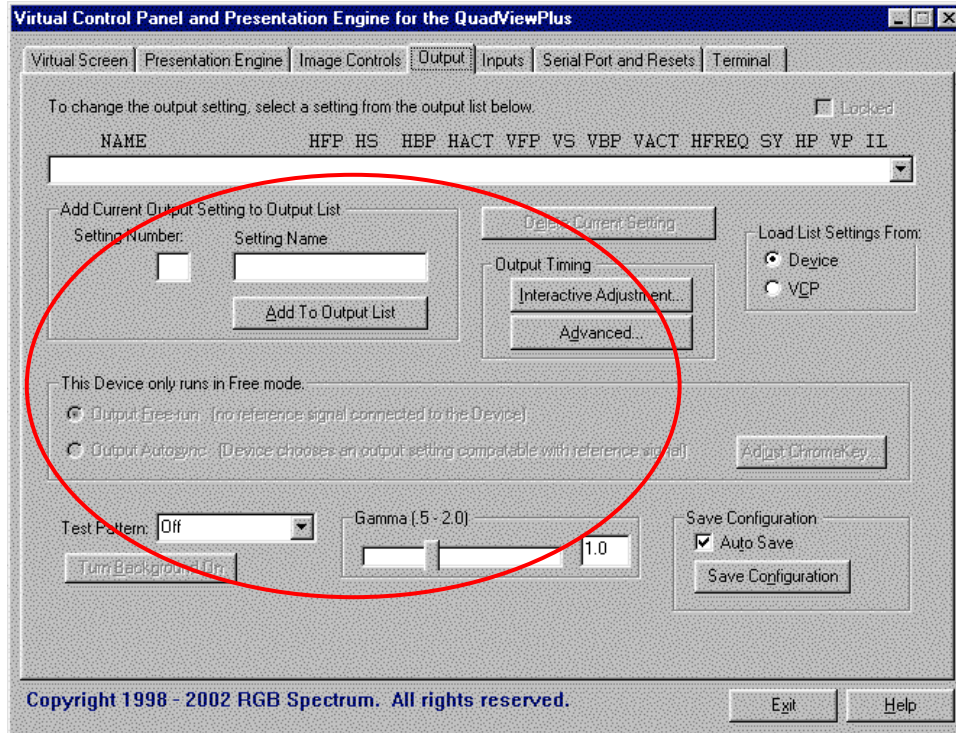

Figure 3. QuadView Plus VCP Output Menu
Select the VCP *Output* tab to view the current output mode of your unit. (see **Figure 3**)
1. To create a user output setting with the aid of the QuadView Plus's output interactive mode, click on the "Interactive Adjustment" button in the "Output Timing" section (**Figure 3**).